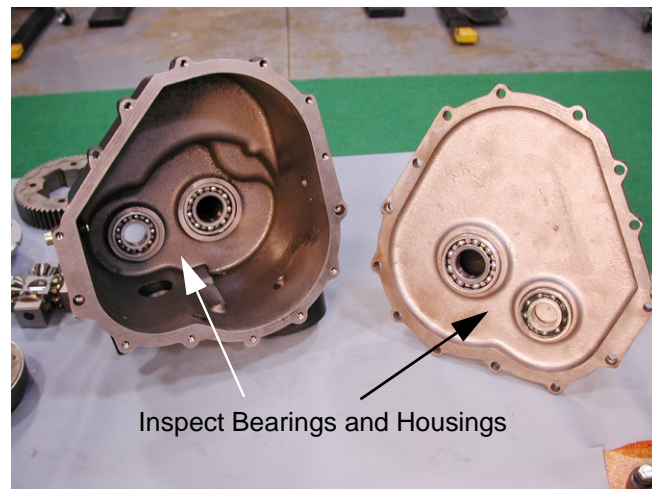

Figure 33
44. Inspect the bearings in the housing for wear or damage. See Figure 33.